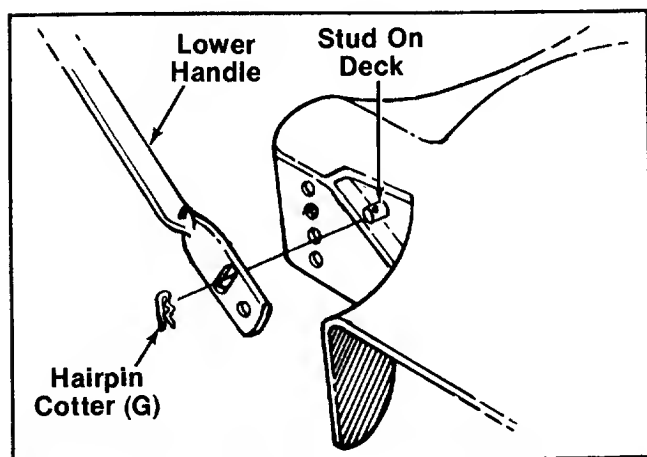

FIGURE 2.
- A (2) Curved Head Carriage Bolts 5/16-18 x 1.38 Long
- B (2) Lock Washers 5/16" I.D.
- C (2) Hex Nuts 5/16-18 Thread
- D (2) Cable Ties
- E (1) Hex Bolt 1/4-20 x 1.50" Long
- F (1) Hex Lock Nut 1/4-20 Thread
- G (2) Hairpin Cotter
- ← 3. Place **upper** slotted hole in lower handle over studs located in front of each rear wheel. Secure with hairpin cotter (G) provided in hardware pack. See figure 2.
Figure 2 is shown with the rear wheel removed for clarity. It is not necessary to remove wheel for handle assembly.